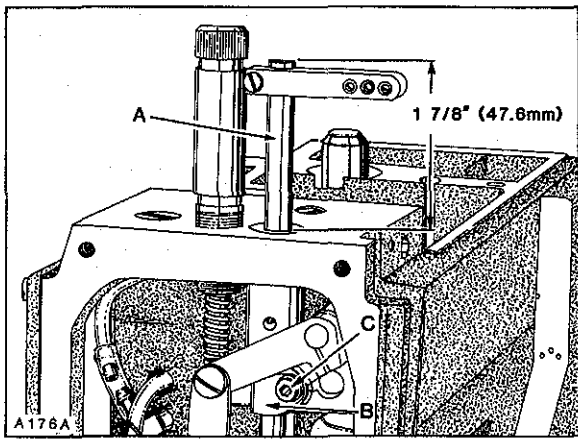
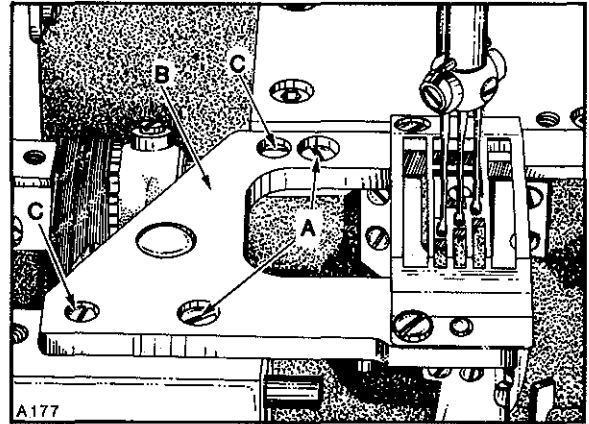

Fig.7
Fig.8
Insert a new set of needles. As a temporary setting, the TOP of needle bar (A, Fig. 7) should be approximately 1 7/8 inches (47.6mm) from the TOP of upper needle bar bushing when needle bar connection (B) is positioned at TOP of STROKE as shown in Figure 7. Adjustment can be made by loosening screw (C), reposition needle bar up or down as required and tighten screw (C) VERY LIGHTLY.
Rotate handwheel to ensure that needles center in the needle holes of throat plate as shown in Figure 8. Adjustment can be made by loosening screw (C, Fig. 7) slightly, allowing needle bar to be rotated as required, while being careful to maintain the temporary height setting and tighten screw (C) AS SPECIFIED. An additional 4-way directional adjustment of the throat plate can be accomplished as follows:
IMPORTANT: Adjustment of throat plate must be coordinated between needles and feed dog; refer to "FEED DOG SETTINGS". Loosen two screws (A, Fig. 8) in throat plate support (B). Loosen two screws (C) which secure locating ferrules, allowing the throat plate support to be repositioned slightly. Tighten screws (C) first, then screws (A).